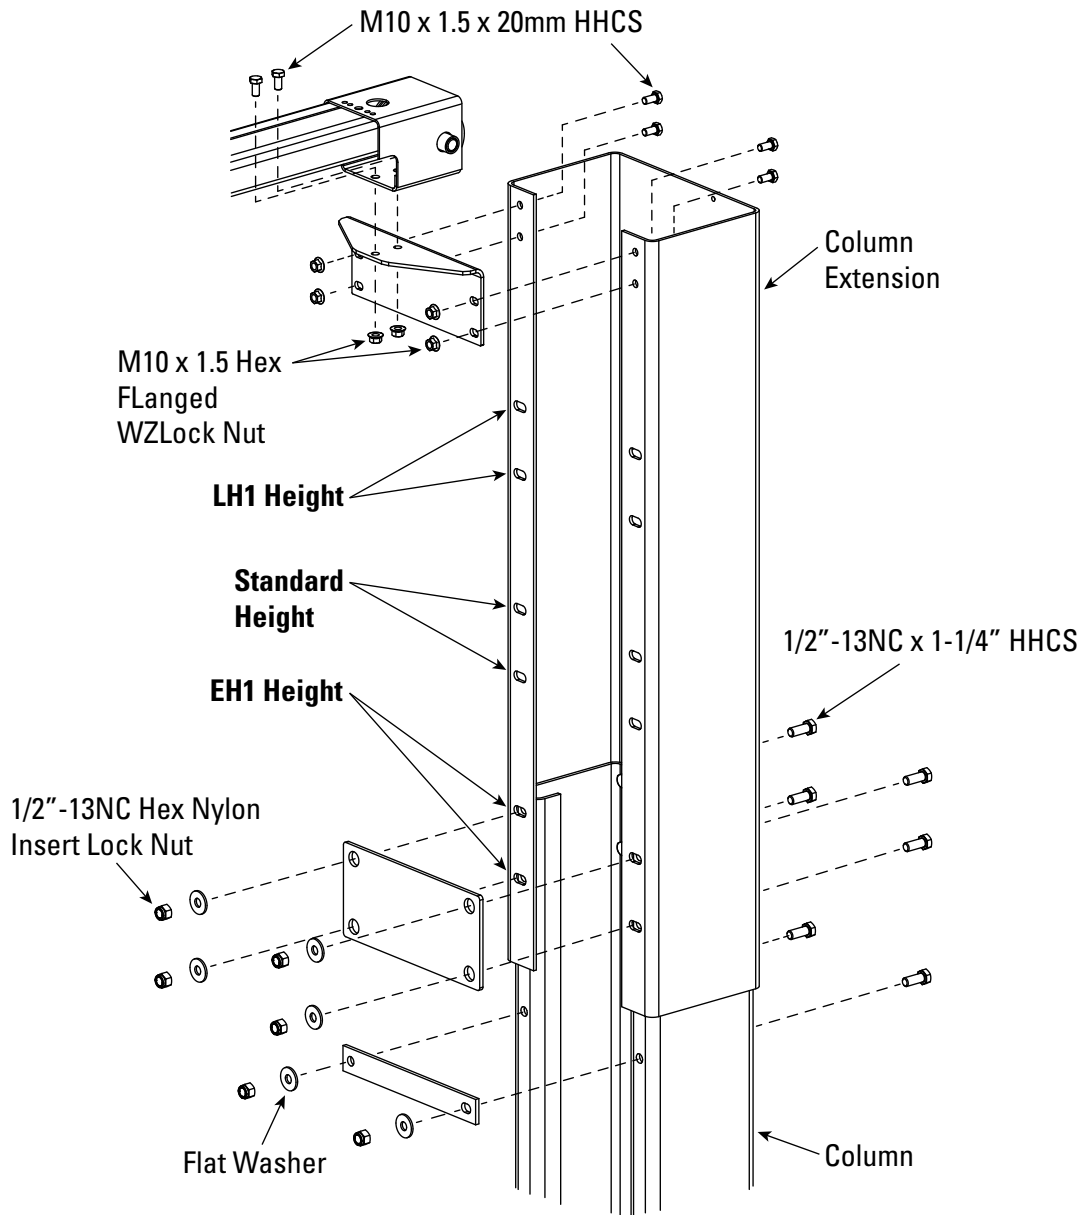
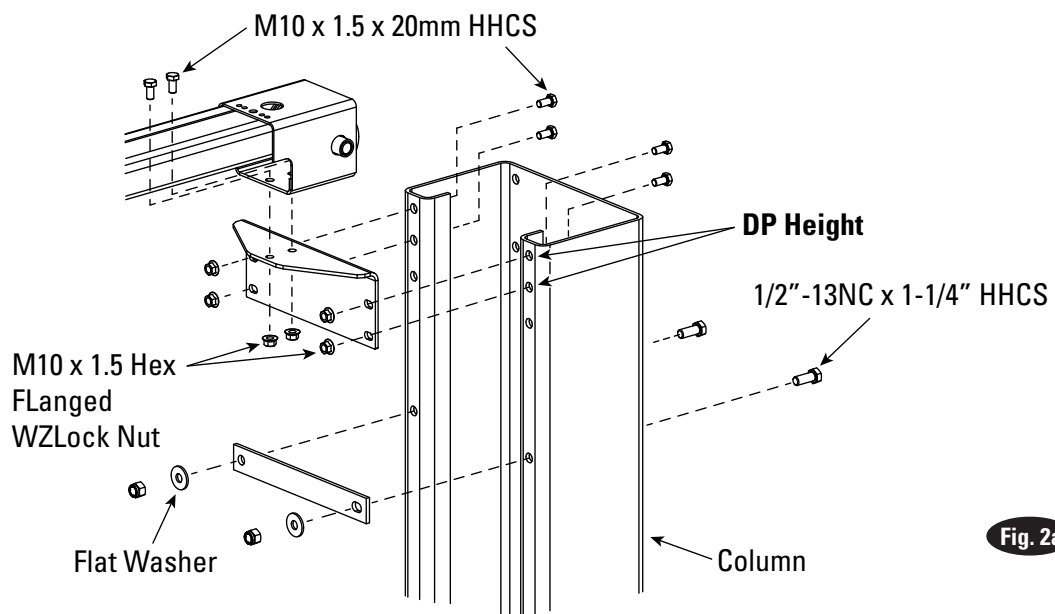
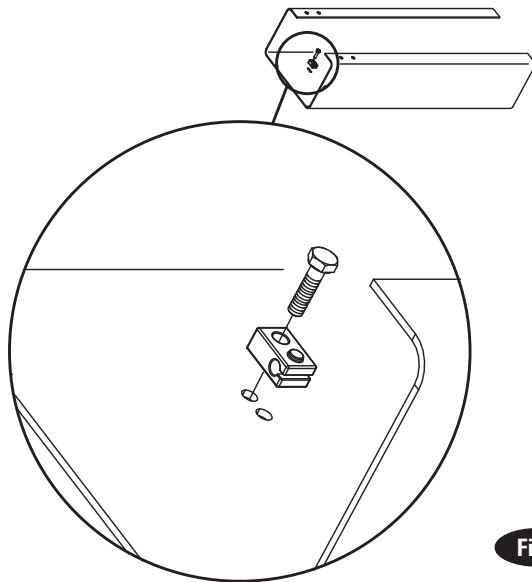

Fig. 2
Fig. 2a
Fig. 3
**Lift Height:** See Fig. 2 for Standard, EH1, and LH1 height settings. See Fig. 2a for DP height setting. Add 1" min. to overall height to lowest obstruction.
**2. Latch Cable Guides:** Install the latch cable conduit guide brackets to column extensions with (1) 1/4"-20NC x 1" HHCS and 1/4"-20NC Flanged Locknuts, Fig. 3. HHCS should go through hole nearest the edge as shown, Fig. 3.
**Overhead Mounting Bracket:** Install Mounting Brackets to column extensions as shown, Fig. 2 and Fig. 2a.
**3. Column Extensions:** While column is on the ground, install column extensions using (4) 1/2"-13NC x 1-1/4" lg. HHCS and Hex Nylon Locknut, Fig. 2 and Fig. 3. Use (2) M10 x 1.5 x 20mm HHCS and Flanged Locknut to attach the tie bar and the column extension together at the column's uppermost holes, Fig. 2 and Fig. 2a. The tie bar is positioned on the outside of the column extension. Adjust the column extensions plumb.
**IMPORTANT:** All star washers are to be mounted on the right side column to ensure grounding of overhead limit switch. Star washers are not needed when mounting to left side column. Notice the column extension mounting, Fig. 2 and overhead limit switch mounting as well in Fig. 6.
**8. Overhead:** Install overhead assembly to Mounting Bracket with (2) 3/8"-16NC x 3/4" Flanged HHCS, (2) 3/8-16NC flanged locknut, see Fig. 2 and Fig. 2a. Ensure limit switch box is mounted on power unit side, Fig. 7. Tighten bolts at center of overhead assembly.